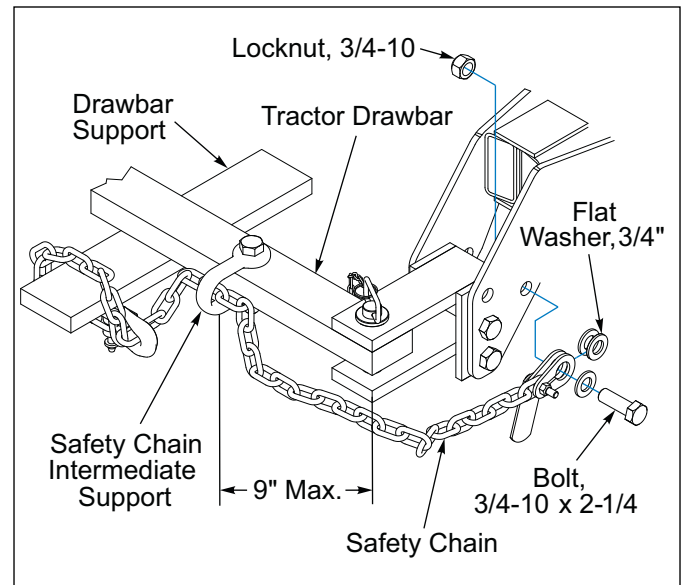

Figure 3-6: Safety Chain
5. Attach safety chain to tractor allowing plenty of movement for turning both directions. The safety chain should latch securely to prevent it from coming loose. **See Figure 3-6.**